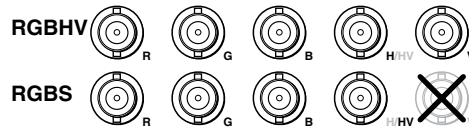

Figure 3. Video Output Connection Format
- ② **RGB PASS-THRU connectors** — Connect a high resolution or computer input (VGA, SVGA, XGA, SXGA, or UXGA) to these female BNC connectors.
- ③ **OUTPUT connectors** — Connect an RGB video display or other device to these female BNC connectors (see figure 3 to connect the RGB video format for each configuration).